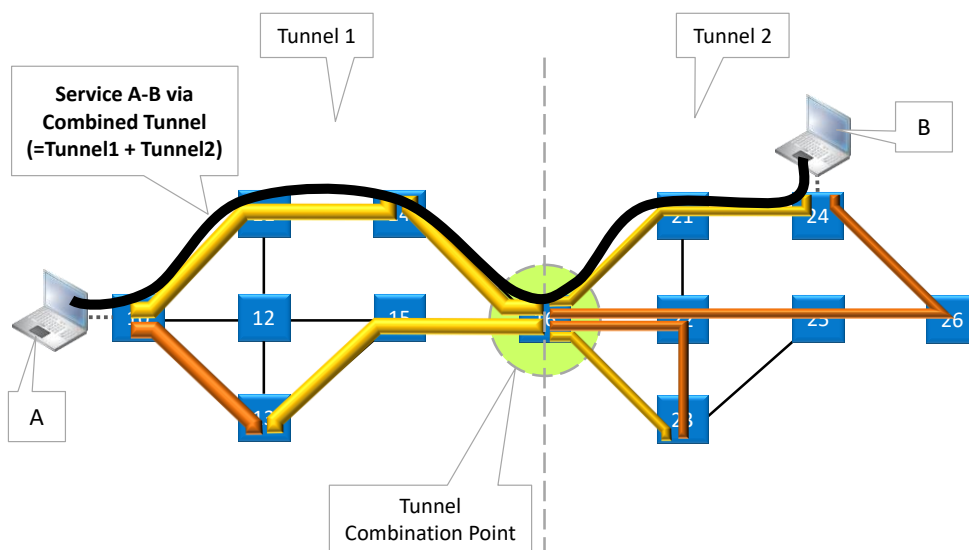

Figure 6 Service Via Combined Tunnels
- ▶ Combined tunnels: multiple tunnels can be selected or combined (by just selecting them in the tunnel list) into one big tunnel to transport the required service. It is possible to combine single tunnels with a mismatch into one big combined tunnel that has a perfect match for the entire service. Point-to-point tunnels cannot be combined, see Figure 6;